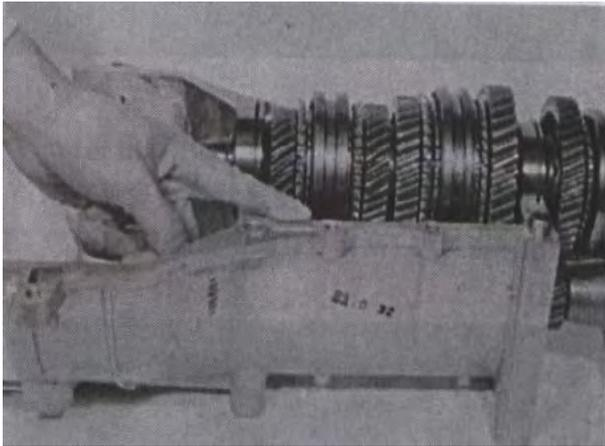

Fig 10-89
(5) Uniformly apply sealant(SILICON KETONE HZ1213) to mating surface of lower case. (FIG.10-89)